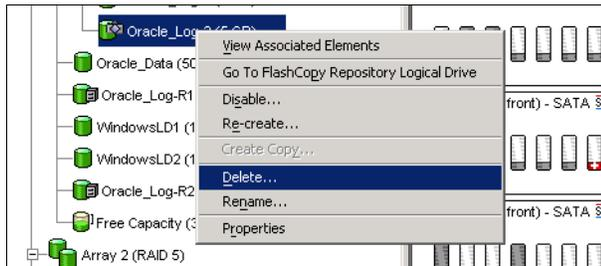

Figure 7-35 Deleting the FlashCopy logical drive
2. Click **Logical Drive** → **Delete** or right-click and select **Delete**, as shown in Figure 7-35.